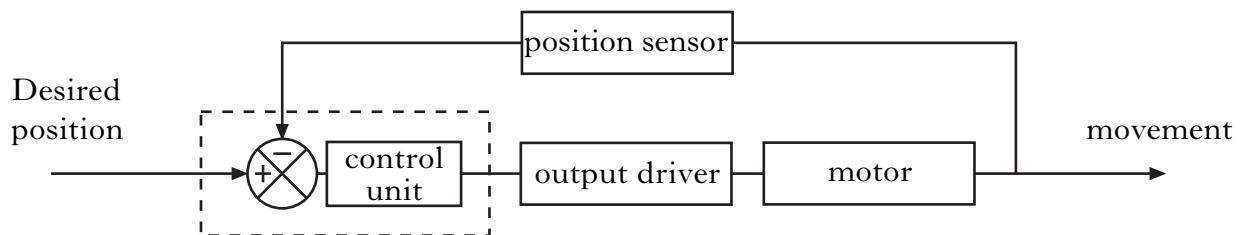

Figure Q11(e)
The control diagram for the lifting system is shown in Figure Q11(e).
- (e) Describe, with reference to Figure Q11(e), the operation of the lifting system.